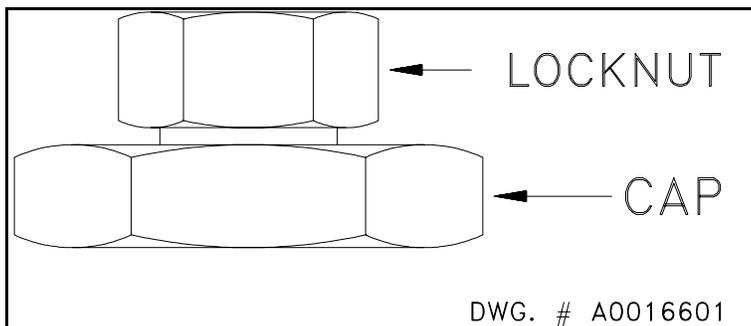

Figure 18 C5000 or C7000 Locknut
3. Loosen the lock nut (Figure18) and pull the wing out as far as it will go.